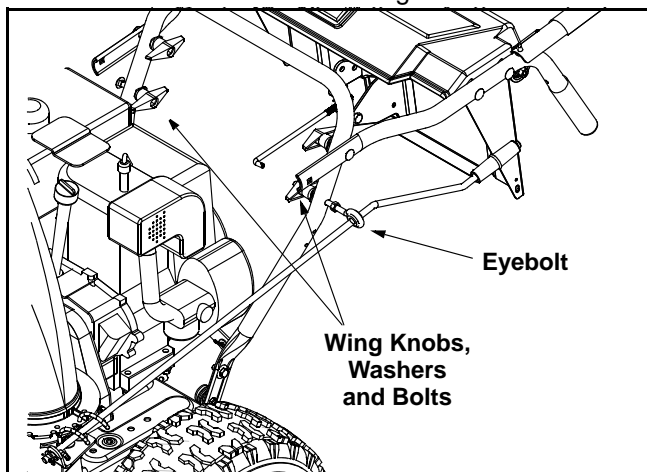

Figure 3
- Remove the **lower** two plastic wing knobs, cupped washers and carriage bolt (eyebolt on the left side) from the lower handle. See Figure 3.